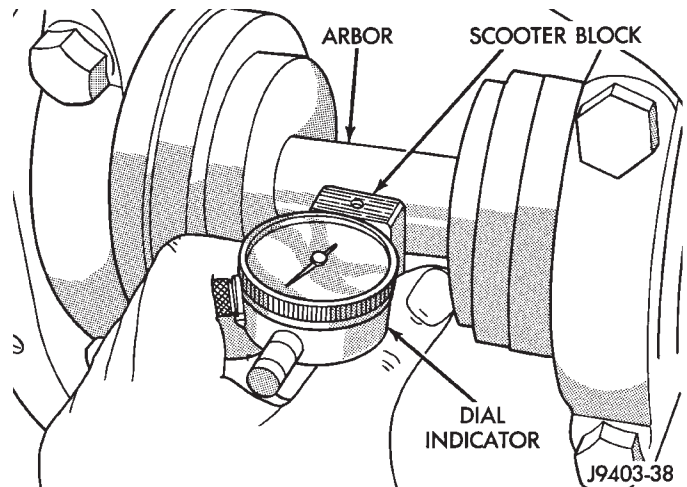

Fig. 80 Pinion Gear Depth Measurement—Typical
(5) Assemble Dial Indicator C-3339 into Scooter Block D-115-2 and secure set screw.
(6) Place Scooter Block/Dial Indicator in position in axle housing so dial probe and scooter block are flush against the surface of the pinion height block. Hold scooter block in place and zero the dial indicator face to the pointer. Tighten dial indicator face lock screw.
(7) With scooter block still in position against the pinion height block, slowly slide the dial indicator probe over the edge of the pinion height block. Observe how many revolutions counterclockwise the dial pointer travels (approximately 0.125 in.) to the out-stop of the dial indicator.
(8) Slide the dial indicator probe across the gap between the pinion height block and the arbor bar with the scooter block against the pinion height block (Fig. 80). When the dial probe contacts the arbor bar, the dial pointer will turn clockwise. Bring dial pointer back to zero against the arbor bar, do not turn dial face. Continue moving the dial probe to the